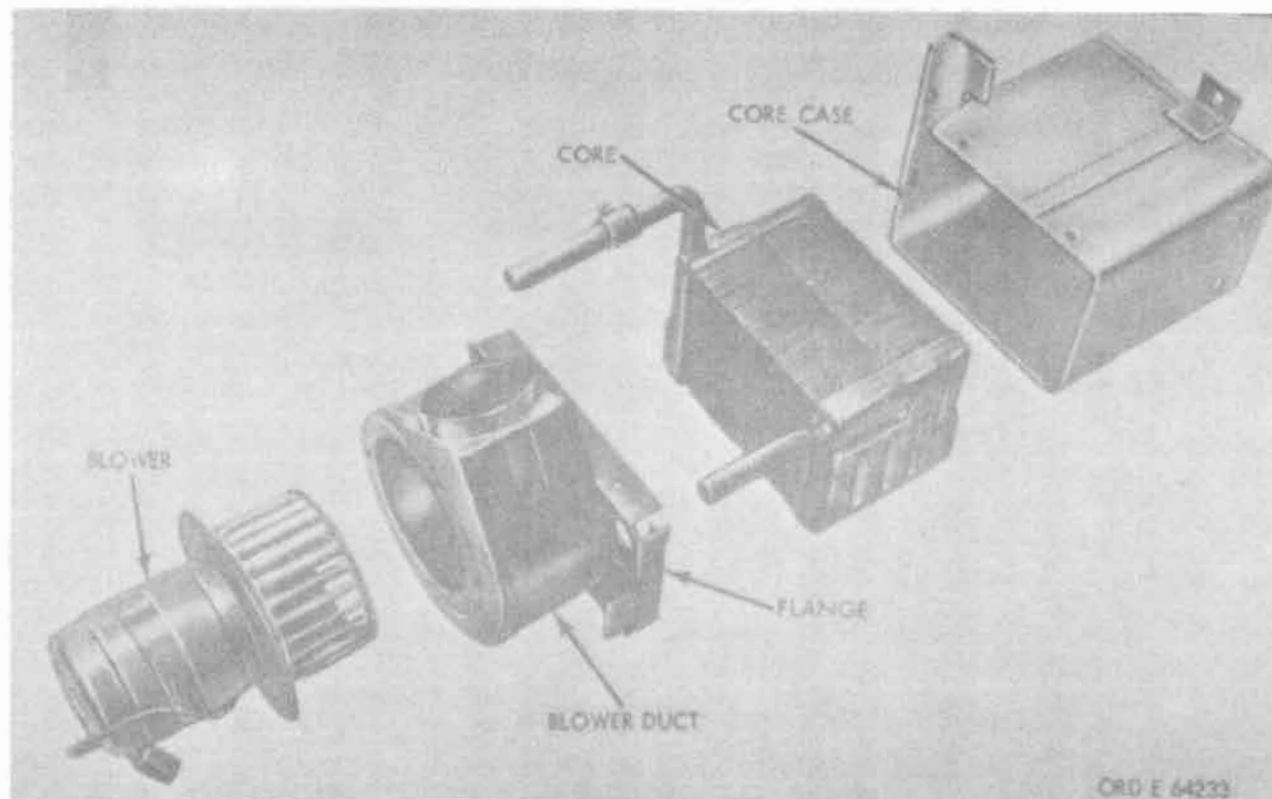

Figure 18-60. Heater assembly (-25°F.) major components—exploded view.
c. Major Components. An exploded view of the major components of the hot water heater kit (—25° F.) is shown in figure 18-60.